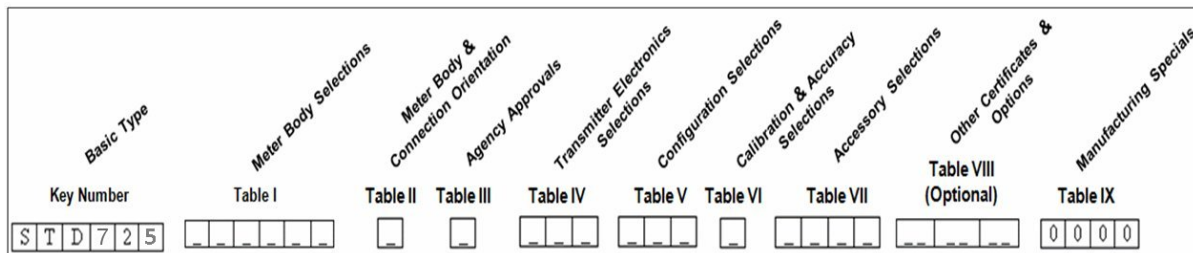

Figure 17 –Typical BasicTransmitter Name Plate Information
The Transmitter nameplate mounted on the top of the Electronics Housing (see Error! Reference source not found. 2 lists the model number, physical configuration, electronics options, accessories, certifications, and manufacturing specialties. Figure 17 is an example of a typical Differential Pressure (DP) or Gauge Pressure (GP) or Absolute Pressure (AP) Transmitter name plate. The model number format consists of a Key Number with several table selections. The Differential Pressure (DP), Absolute Pressure (AP), and Gauge Pressure (GP) name plates are essentially the same. However, the DP provides one additional entry (7 vs. 6 characters) in the Meter Body Selections (Table I) to accommodate the static pressure rating.